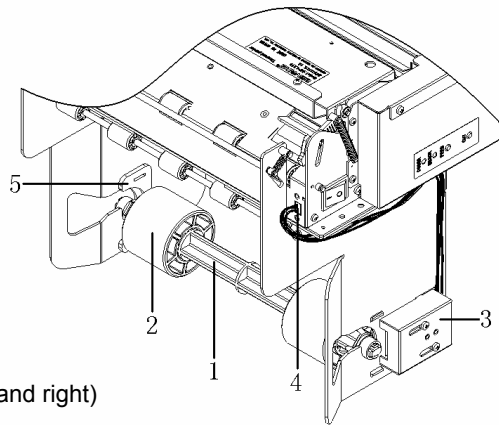

Figure 3.10 Vertical paper holder appearance
- ① User may check paper status by sending inquiring command (refer to “command set” for details) to the printer.
- ② Users can adjust the position of paper near end sensor to control the amount of remaining paper according to different paper roll diameter (see figure 3.10 and 3.11). To adjust the sensor, please loose those two fixing screws and move the positioning board up or down to the right position along the slide track then tighten the screws.